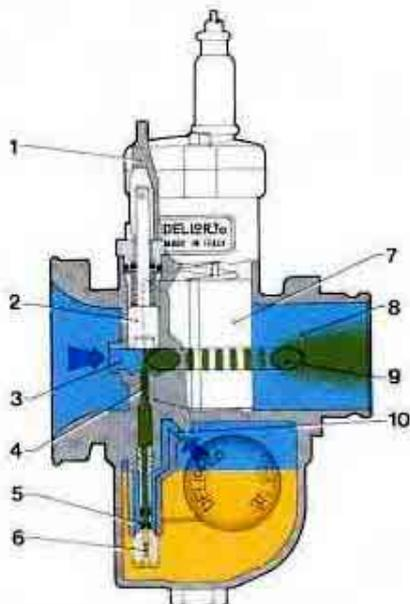

fig. 15
It is called independent because the starting device operates with its own circuit including a starter jet, emulsion tube and a starter valve (fig. 15).
**Figure 15** shows the mixture strength delivered through the emulsion tube depends on the size of the starter jet (6) and on the size of the air duct (10).